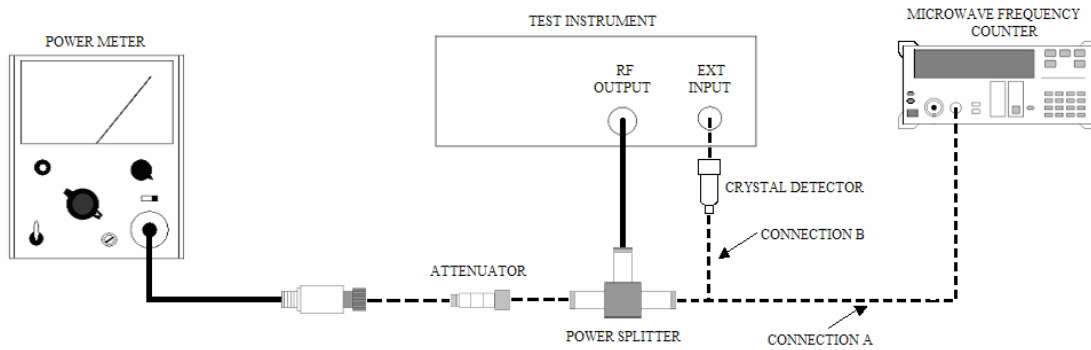

Figure 6. Frequency and power output - equipment setup.
(1) Connect equipment as shown in figure 6, CONNECTION A.
- (1) Connect equipment as shown in figure 6, connection B.
- (2) Position controls as listed in (a) through (c) below: